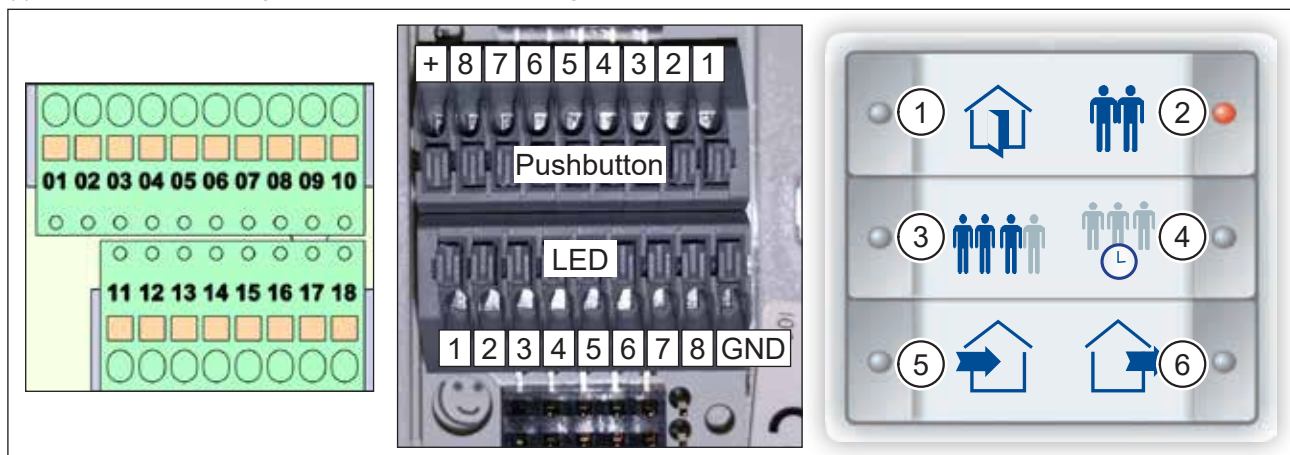

Fig. 30: Terminal blocks on ventilation unit, terminal blocks on InControl pushbutton sensor, insert sheet
- ▶ After wiring, place the insert sheet (Fig. 30) in the InControl pushbutton sensor.